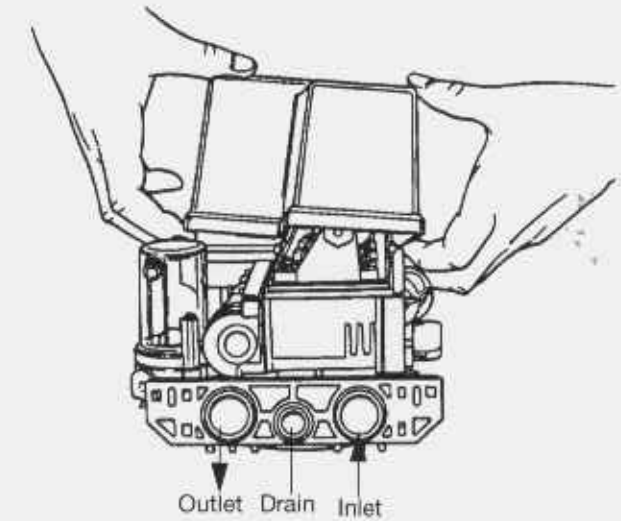
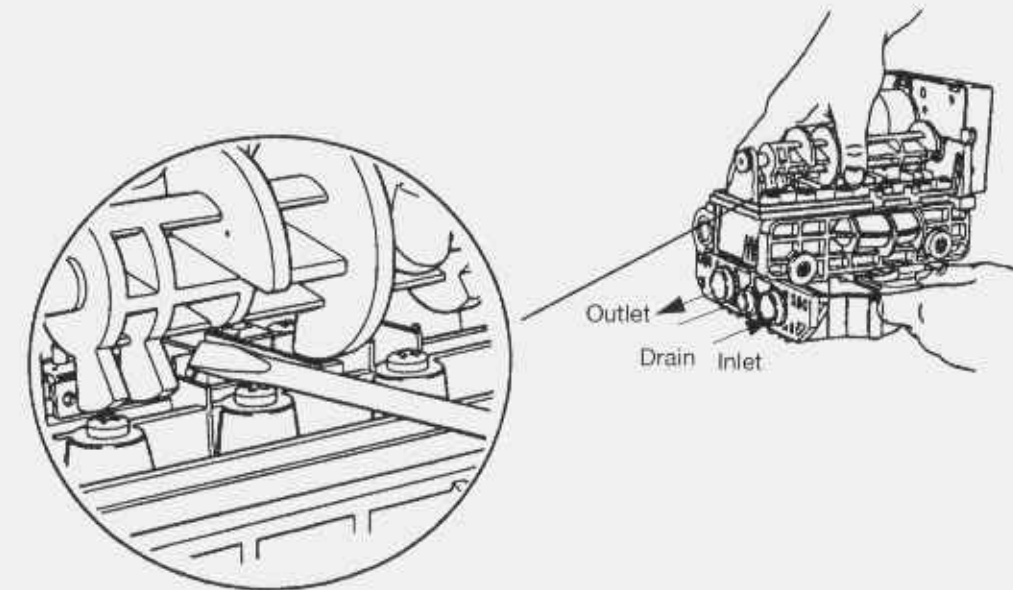

Figure 10
Figure 11
- Remove control valve cover (Figure 10).
3. Remove cover (Figure 10), and with screwdriver, relieve tank pressure by pushing open the valve on control as shown (Figure 11).
- Relieve system pressure by opening valve No. 5 (at rear) with a screwdriver (Figure 11).